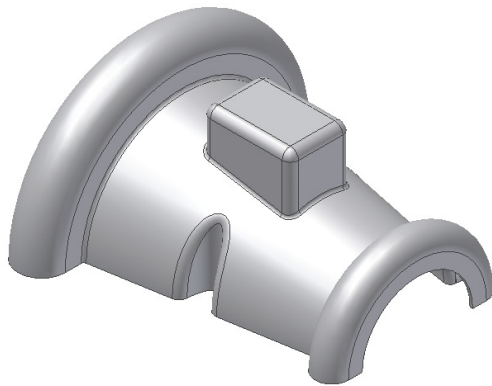
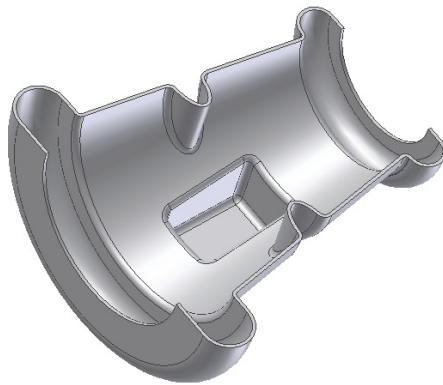

Figure 14-67 Final hybrid model
Figure 14-68 Rotated view of the hybrid model
- k. Thicken the surface using the **Thicken/Offset** tool, refer to Figure 14-68.
3. Choose **OK** to exit the dialog box. Now, turn off the visibility of the stitched surface using the **Browser Bar**. The final model for Tutorial 5 is shown in Figure 14-67. Figure 14-68 shows the rotated view of the same model.